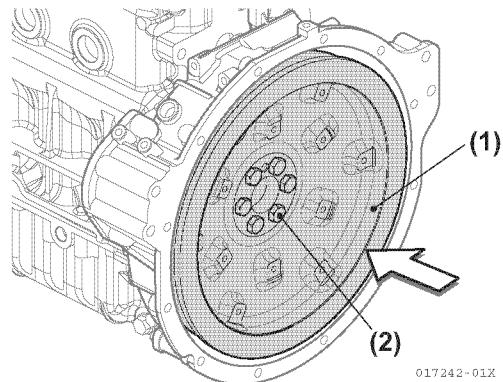

Figure 5-147
- Align the positioning pins, and tighten the flywheel bolts to the specified torque (**Figure 5-147**).